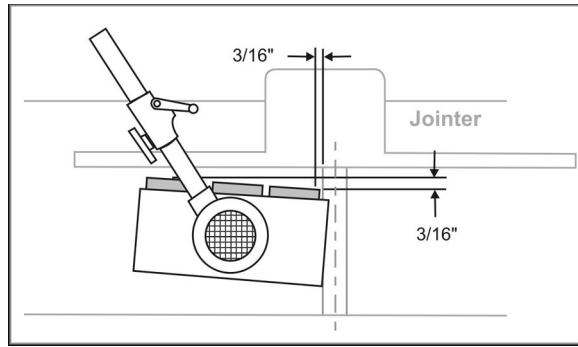

Figure 22
2. Some woodworkers prefer to place the feeder so that all rollers are over the outfeed table, as shown in Figure 22. The infeed roller should be approximately 3/16" away from the lip of the outfeed table at the cutterhead area.